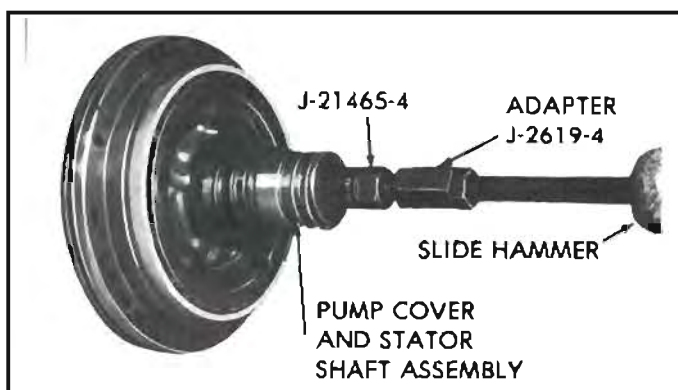

Figure 132 Rear Stator Shaft Bushing Removal
1. If replacement at lower rear stator shaft bushing is required, proceed as follows: Thread Tool J-21465-15 into stator shaft lower rear bushing. Thread slide hammer J-2619-01 into remover. Clamp slide hammer into vise. Grasp stator shaft and remove bushing. *See Figure 132.* If upper rear stator shaft bushing is required, repeat above procedure.